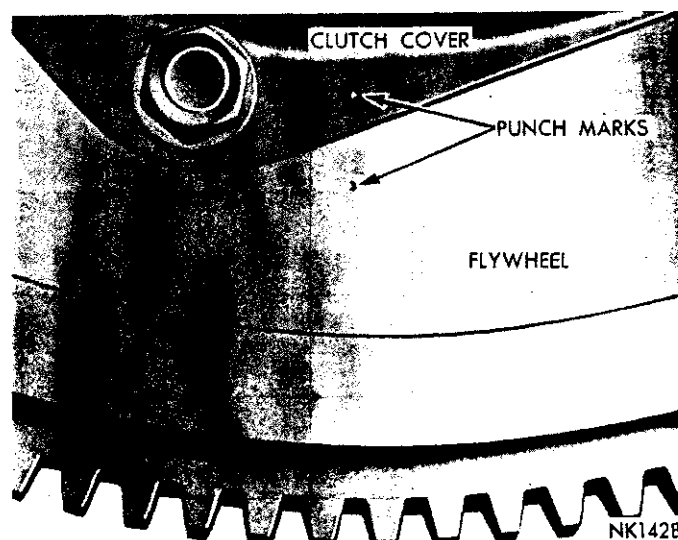

Fig. 9—Marking Clutch and Flywheel
(7) Mark clutch cover and flywheel (Fig. 9) to maintain their same relative positions when reinstalling clutch assembly.
(8) Loosen and back off clutch cover attaching bolts, one or two turns at a time, in succession, to avoid bending cover flange.
(9) Remove clutch assembly and disc from clutch housing.
(4) Install clutch cover attaching bolts (after aligning balance punch marks, (Fig. 9), but do not tighten them. The special 12 point bolts used on 11 inch clutches for 383 cu. in. and larger engines, require no lock washers. The use of lock washers would create interference problems.